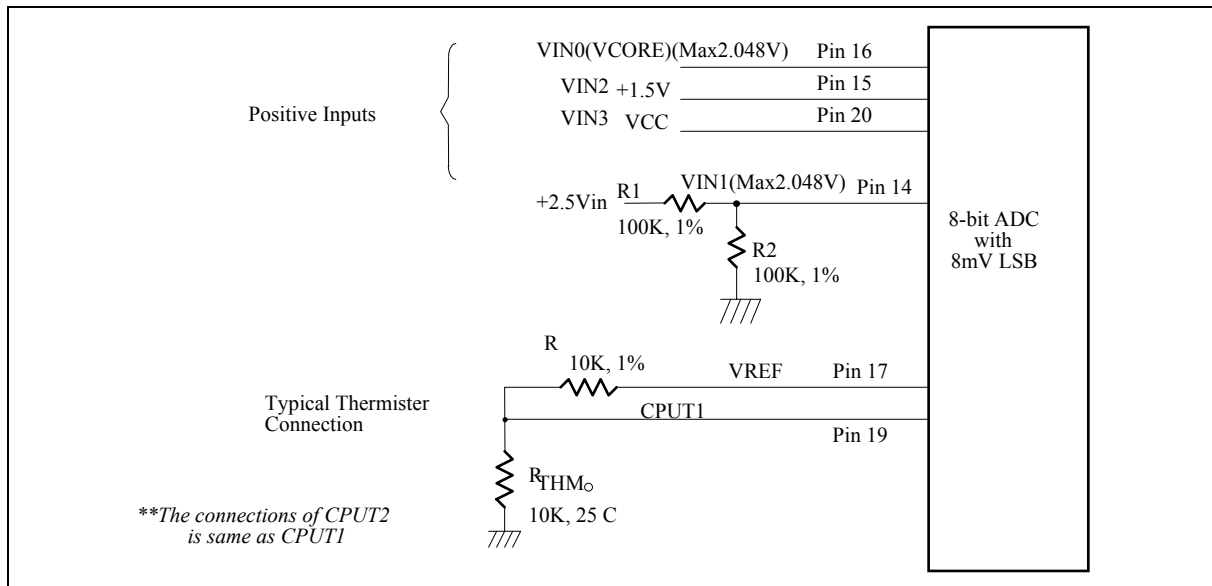

Figure. 3.
The maximum input voltage of the analog pin is 2.048V because the 8-bit ADC has the 8mV LSB. Actually, the application of the voltage monitoring would most often be connected to power suppliers. The +1.5V voltage can directly connected to these analog inputs. The +2.5V and CPU VOCRE, the inputs higher than 2.048V, should be reduced a factor with external resistors so as to obtain the input range. As Figure 3 shows.
The W83L785R/G can connect two thermistors to measure three different environment temperature or remote temperature. The specification of thermistor should be considered to (1) β value is 3435K, (2) resistor value is 10K ohms at 25°C. In the Figure 3, the themistor is connected by a serial resistor with 10K Ohms, and then connected to VREF (pin 17).